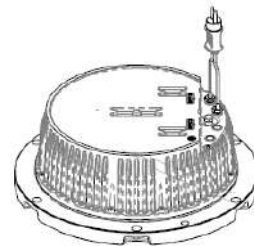

Figure 5-30
- After detection, release the air pressure in the lighting fixture with the air valve of the valve core, re-screw the valve cap and put it into use (Figure 5-30). In case of leakage, check the causes according to the previous prompts and repeat the whole lighting fixture disassembly and assembly process or return it to the factory for maintenance.